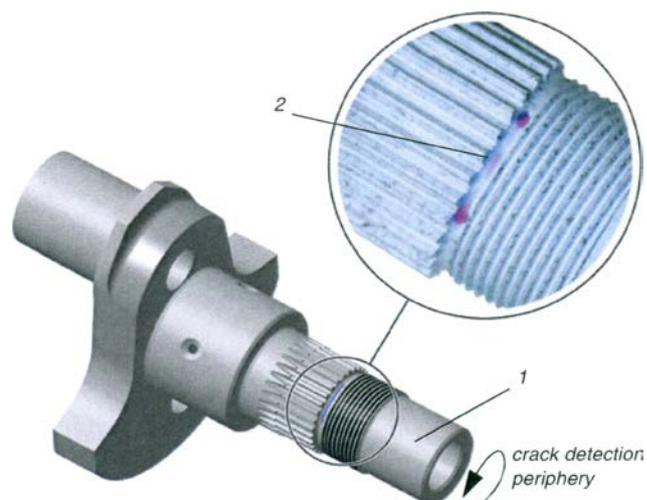

Fig. 1. Crankshaft Journal
Fig. 1 (opposite) shows a sketch of the area of concern, item 1 shows the crankshaft journal itself, this bearing face sits securely in the gearbox housing. Item 2 shows a small crack in the radius between the splined power take off and the journal. It can be seen that drive to the propeller would not be lost if this crack progressed to a complete failure of the shaft as the gear is driven through the parallel spines although, naturally, some radial support would be lost in the crankshaft assembly should separation occur. Rotax engineers have determined that, in the event of complete failure, engine operational reliability is assured until the next maintenance check.